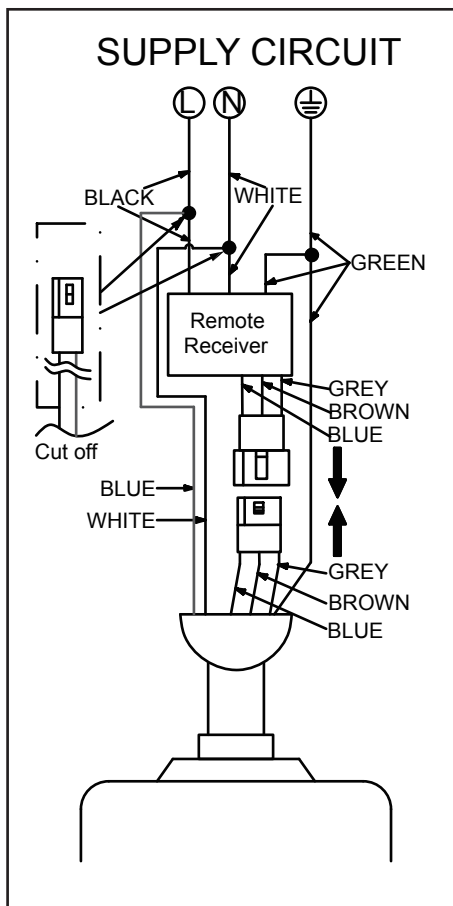

Figure 11
1. If using the 6 in. ball downrod assembly provided, wire the receiver to the fan wires by connecting the molded adaptor plug from the receiver with the molded adaptor from the fan motor assembly together. Cut off the molded adaptor from the white and blue wire, then connect the blue wire to the household black wire and the white wire to the household white wire using a wire connecting nut. (Figure 11)